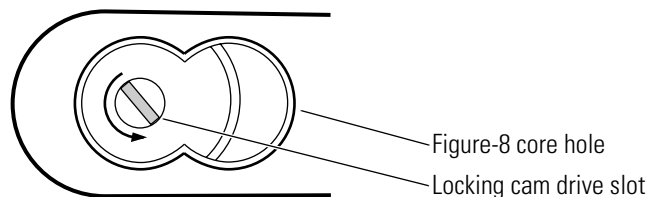

Figure 3.35 Intermediate position of the G and IN function locking cam
3. Looking into the figure-8 core hole in the other lever, turn the locking cam drive slot counterclockwise until it stops, as shown in Figure 3.35.